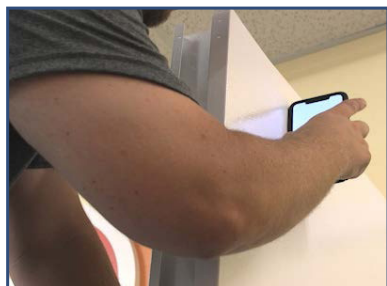

Fig. 88 Check vertical alignment
8. Check the panel's vertical alignment (Fig. 88) and adjust if necessary.